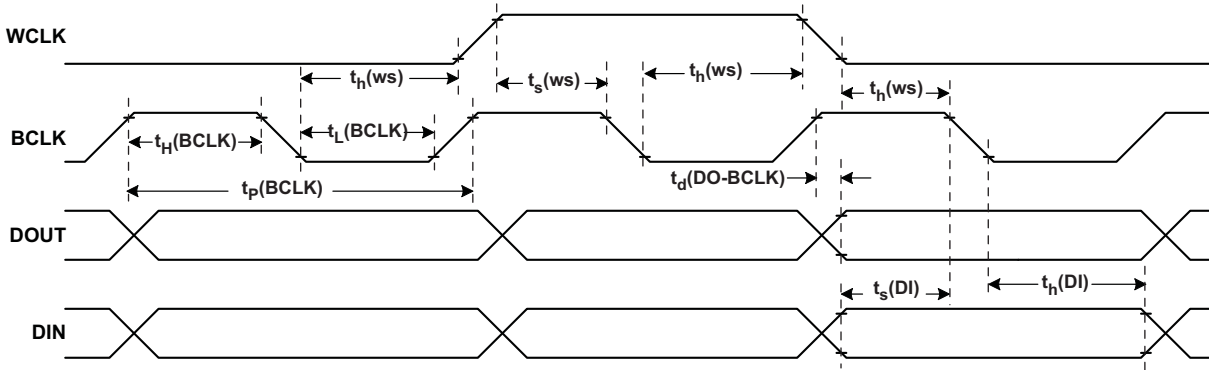

Figure 3-4. DSP Timing in Slave Mode
3.9.2 Typical Timing Characteristics (see Figure 3-4)